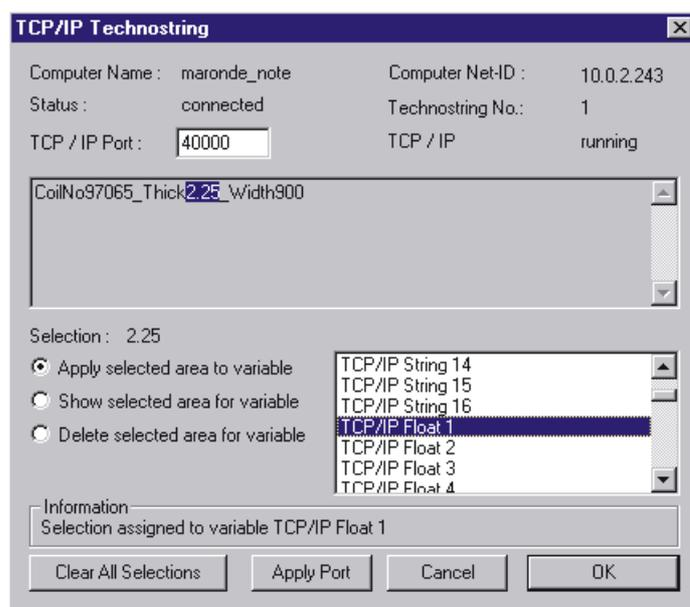

Fig. 18 TCP/IP Technostring, dialog window
- 3 Using another (remote) system send a technostring to the ibaLogic computer by means of the test program *TCPIP Test.exe*. The technostring should appear in the dialog window above (Fig. 18).
*If a different port number has to be used for technostring communication because this port is used for other kinds of data exchange, then enter a new port number in the dialog window above (Fig. 18) and click *OK* in order to create the file *iba_tcp.cfg*.*